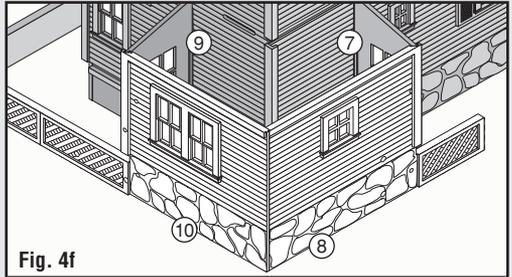

Fig. 4f
- Glue Outer Right Wall (10) to Porch Door (9), then glue Outer Back Wall (8) to Back Door (7) and Outer Right Wall (10). (Fig. 4f)